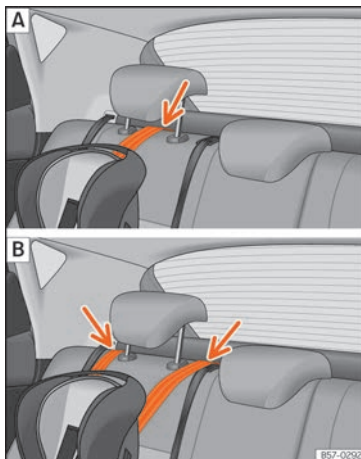

Fig. 30 Rear seats: adjustment and assembly according to the Top Tether belt.
- Place the belt under the headrest of the back seat »» Fig. 30 (depending on the instructions of the chair itself, lift or remove the headrest if necessary).